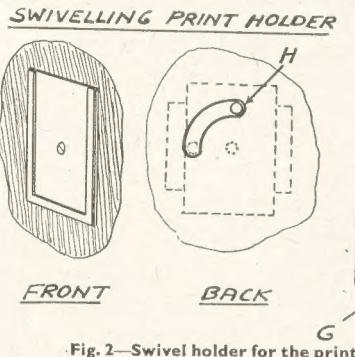

Fig. 2—Swivel holder for the prints
To fit the holder, first glue the spacer (G), 3 ins. by 2 ins., (Fig. 2), at the back to allow countersinking the head of the screw that secures the frame to the back and upon which it rotates. If the head is not countersunk it will catch the prints as they are slipped in and out.
Finally, as far as this part is concerned, fit the knob (H) and cut a circular channel for it in the back, shown also in Fig. 2, so the holder can be readily turned. When fitting on to the back, the central screw should, of course, be right opposite the mid point of the reading glass.